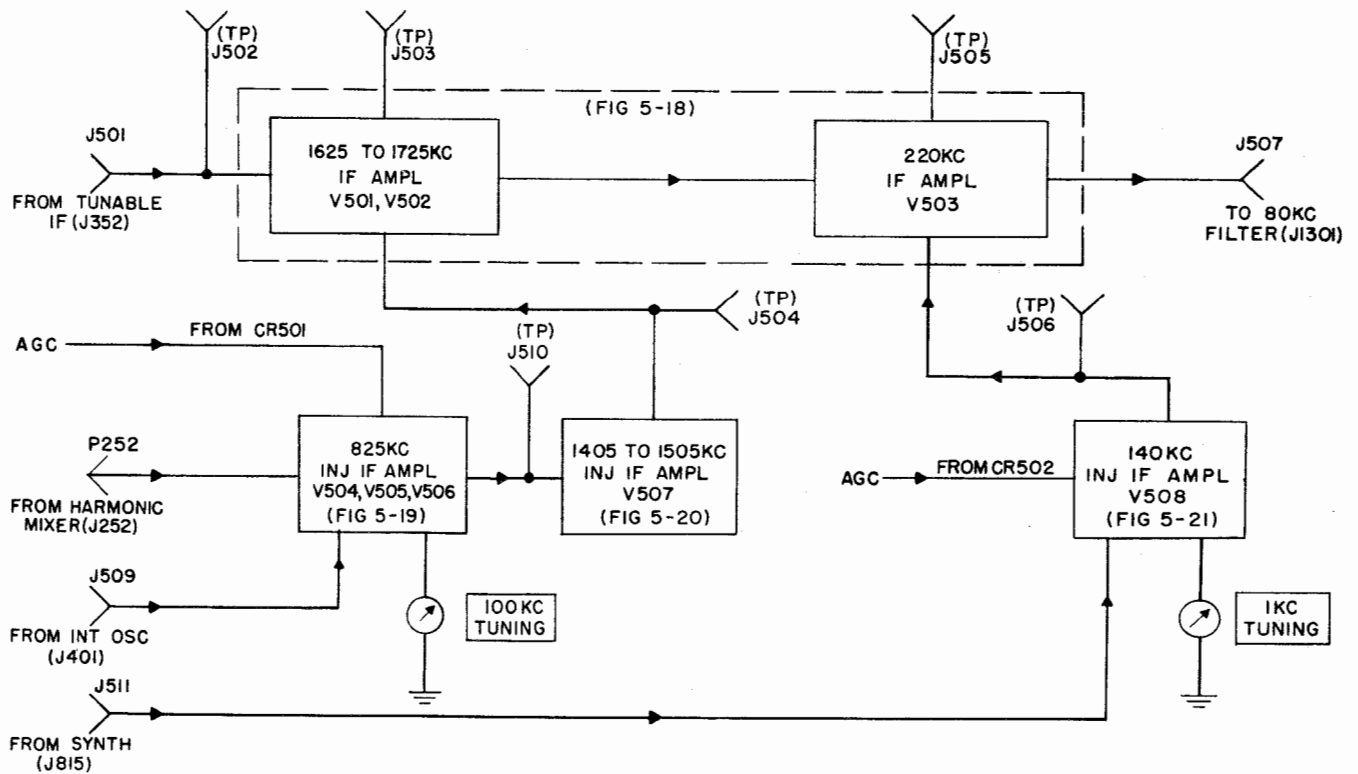

Figure 5-17. Injection IF Amplifier, Functional Block Diagram
a. DIAGRAMS.—Figure 5-17 is a functional block diagram of the injection IF amplifier. For a complete schematic diagram, refer to figure 6-16. The following functional schematic diagrams of injection IF amplifier are also provided: